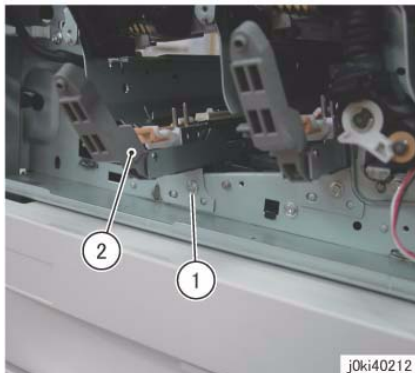

Figure 1 Remove the LPH Unit (K)
4. Remove the Developer Housing Assembly (K). (REP 9.14)
5. Remove the LPH Unit (K). (Figure 1)
- b. Remove the LPH Unit (K).